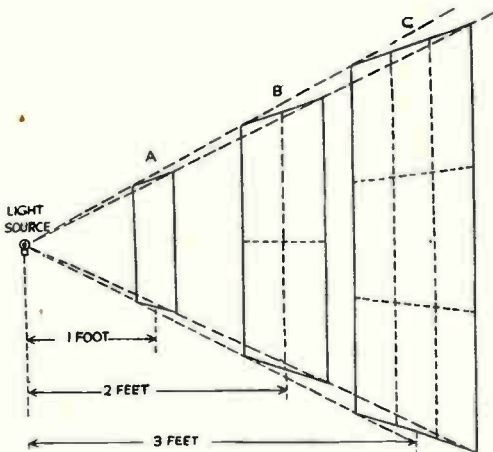

Fig. 18-2. The workings of the inverse square law applied to a flow of light.
**Foot-candles.** The surface of the sphere in Fig. 18-1 would be uniformly lighted or uniformly illuminated by one lumen of flux falling on each square foot of the surface. The degree of lighting or illumination produced by a flux of one lumen per square foot is called one foot-candle. Supposing that the one lumen of flux falls on surface **A** of Fig. 18-2; this surface being one foot from the light source and having an area of one square foot. The illumination on **A** is one foot-candle.
If **A** of Fig. 18-2 is considered to be an opening rather than a surface, one lumen of flux will pass through this opening. At a distance of two feet from the source the one lumen of flux will spread out to cover area **B**. But area **B** is four times as great as area **A**, so at **B** we have one lumen spread over four square feet, or have one-fourth lumen per square foot. This is an illumination of one-fourth foot-candle at **B**. If the one lumen of flux is allowed to pass through **C**, which is three feet from the source, the one lumen will spread over nine square feet, and the illumination will be one-ninth foot-candle. Illumination in foot-candles is equal to lumens per square foot.
**Law of Inverse Squares.** In Fig. 18-2 the three areas A, B and C are respectively 1, 2 and 3 feet from the light source. Their illuminations are respectively 1,  $\frac{1}{4}$  and  $\frac{1}{9}$  foot-candles.